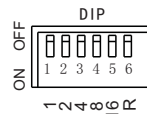

Fig. 2
- (1) DIP switches: SW1~SW5 for programs selection, please see Attached Table (1=ON, 0=OFF). SW6 for remote controller; (see fig. 2)
- (2) Calculation of DIP address code:
- (3) Using of Wireless Remote Controller: